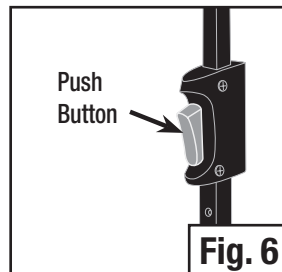

Fig. 6
- Adjust desired height until push button locks into place, making sure all six posts are level. (Fig. 6 & 7)